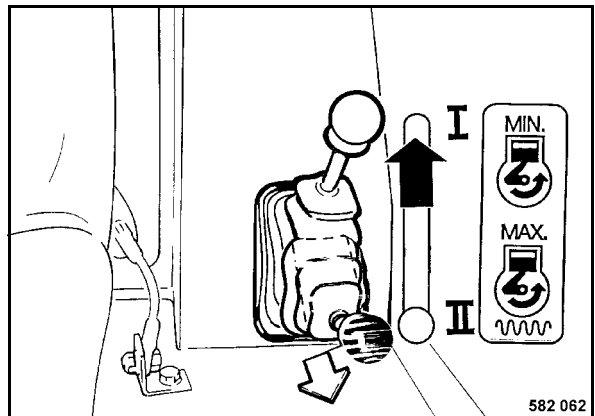

Fig. 40
- Pull the locking plate (Fig. 40) up and set the throttle lever to position "I" (idle speed).